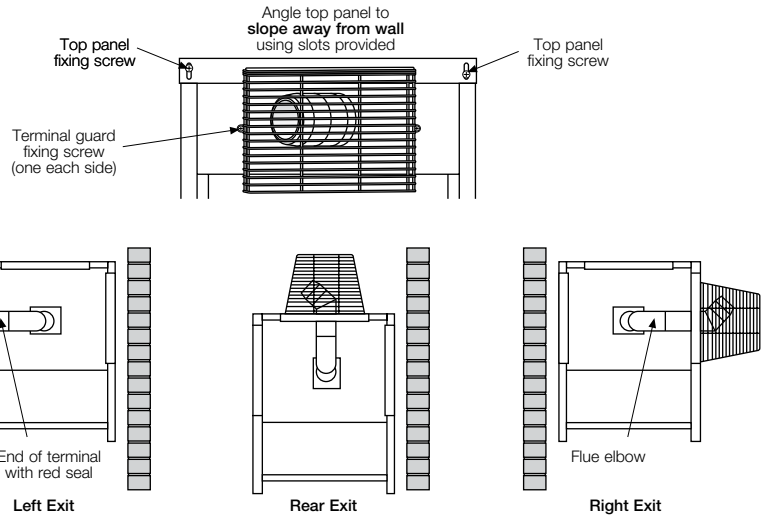

Figure 4-1: Standard supplied flue
8. The top panel of the casing has been designed so that it may be fitted to create a slight slope away from the side positioned against the wall. To tilt the top panel, loosen the four top panel casing screws, one at each corner and push down on the side furthest from the wall. Tighten the screws. See Figure 4-1.